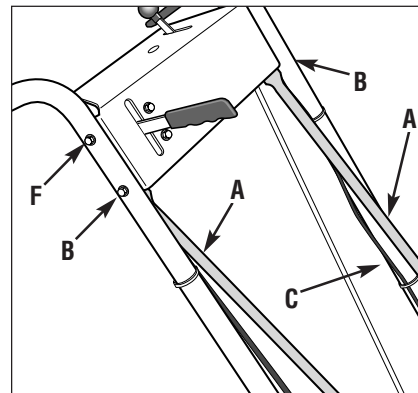
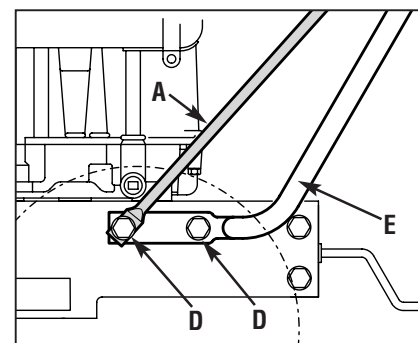

Figure 2-1
Figure 2-2: Attach handlebars and struts to engine deck.
NOTE: Four screws (D, Figure 2-2) are used to connect the handlebars to the engine deck. At the factory, two of these screws (front) are threaded directly into lock nuts welded to the back sides of the deck. The remaining two screws (rear) secure the lower handle to the deck.
3. Carefully pivot the handlebars over the engine and position the handlebar ends (E, Figure 2-2) against the sides of the engine deck. Do not allow the handlebars to rub against the engine while pivoting them.
4. Loosely secure the right-hand handlebar end to the deck by reinserting the screw (D, Figure 2-2) removed earlier. Do not secure the left-hand handle at this point in assembly.
6. Remove the nut from the lower screw (B, Figure 2-1) which secures the console to the handlebar on the left-hand
7. Position a handlebar strut's smaller hole (A, Figure 2-1) over the screw (B, Figure 2-1) on the INSIDE of the console, with the strut's flat side against the console.
9. Align the loose end of the left-hand handlebar strut (A, Figure 2-2) over the front hole in the handlebar end. Secure the strut and handlebar to the deck with the 5/16"-18 x 3/4" screw (D, Figure 2-2) removed earlier.
11. On both sides of the unit, securely tighten the screws (D, Figure 2-2) at the lower ends of the handlebar before tightening the screws (B & F, Figure 2-1) on the console.